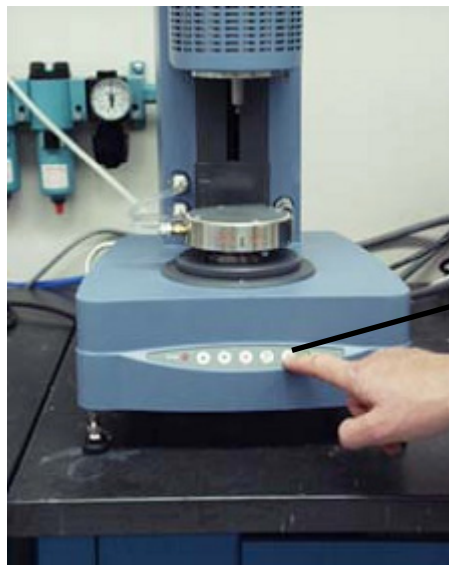

Figure 5.8
1. Press the '**Release button**' on the control panel (see Figure 5.8). A flashing green light indicates that the attachment can be unplugged.